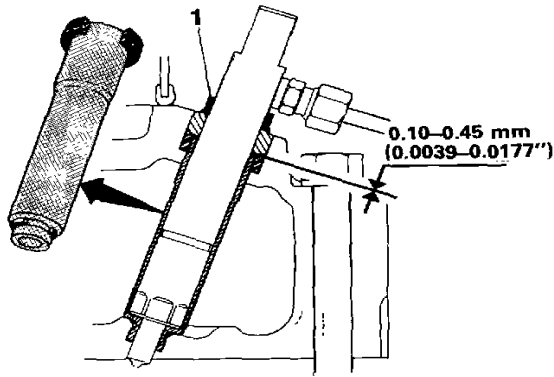

Fig. 151. Injector copper sleeve
5. Fit the new injector (with protection ring 1, fig. 151 on marine engines). Tightening torque 50 Nm (5 kpm = 36 lbf.ft).
**NOTE!** The steel ring and copper sleeve must be pressed down in two stages in order to obtain the correct pressing force on the copper sleeve as well as the correct clearance between the ring and the sleeve (fig. 151).
17. Fit the injector (with protective ring 1, fig. 151 on marine engines) and the yoke. Tightening torque 50 Nm (5 kpm = 37 lbf.ft). Fit the leak-off fuel line and the delivery pipes.